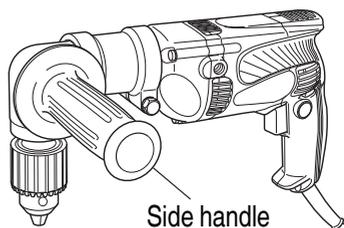

Fig. 11
- (3) Installing the side handle (Fig. 11)